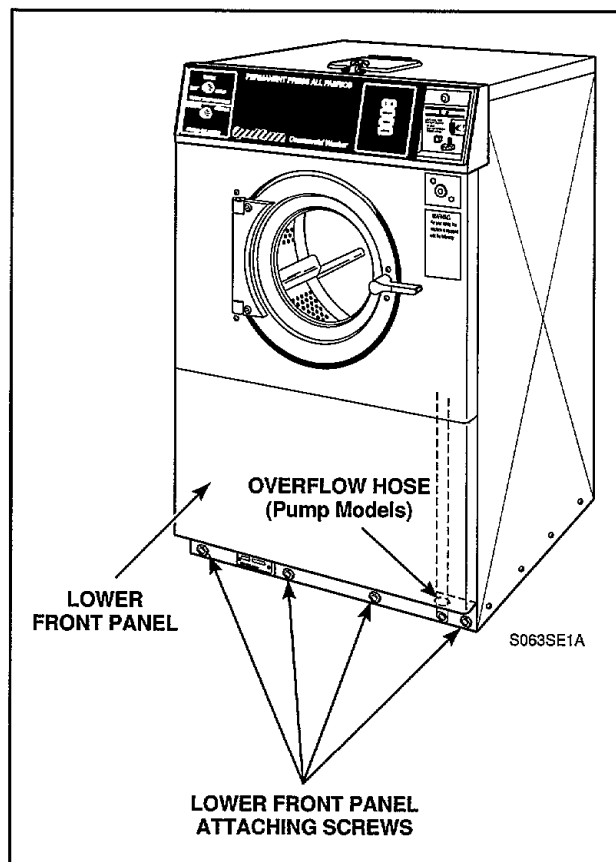

Figure 8
4. LOWER FRONT PANEL (Figure 8)